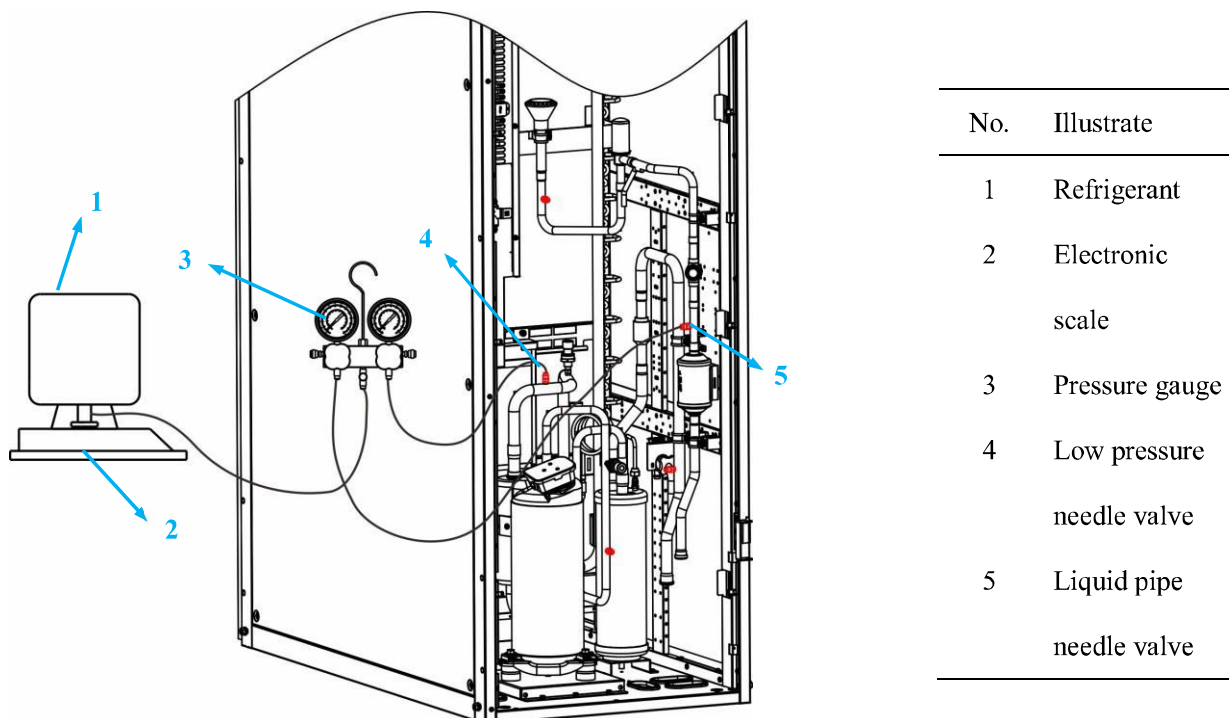

Figure 2-10 Schematic diagram of refrigerant charging
1. On the basis of the vacuum equipment, remove the vacuum pump and replace it with a refrigerant cylinder, as shown in Figure 2-10.